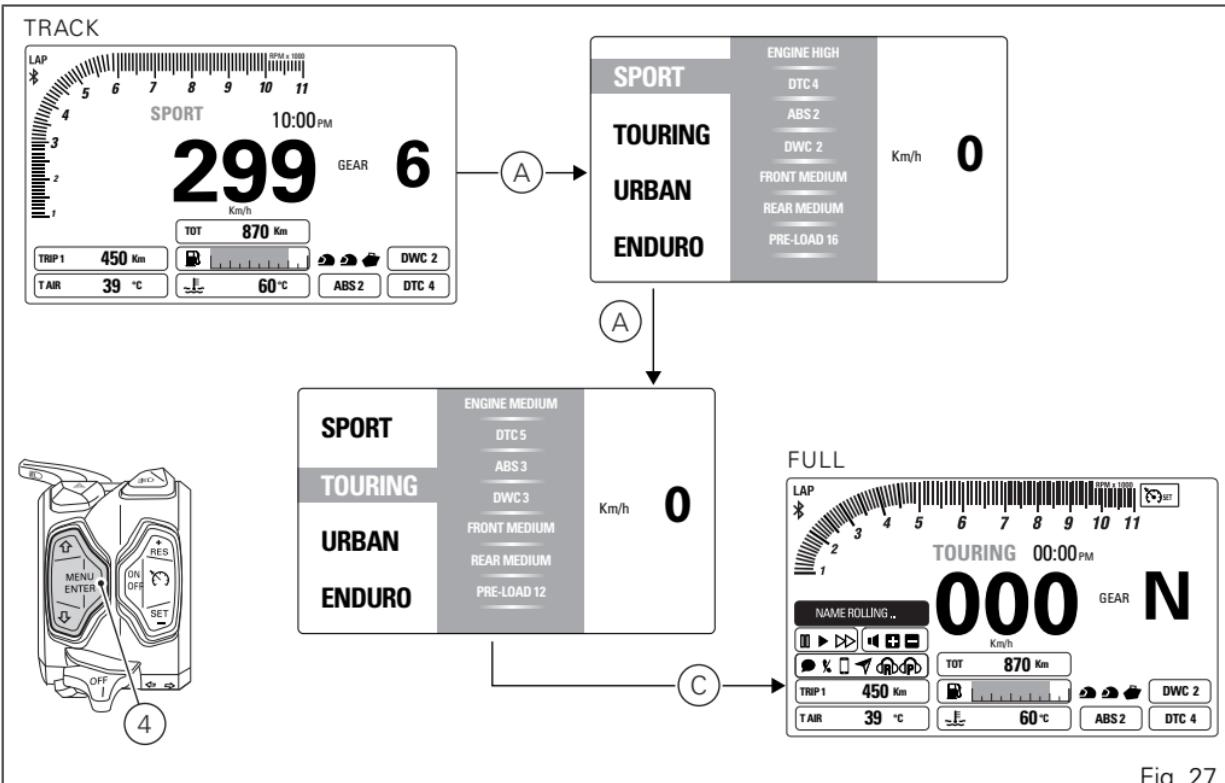

Fig. 27
Once the desired riding mode (A, Fig. 27) is highlighted, confirm the selection by holding down the CONFIRM MENU button (4) for 2 seconds: the new riding mode selection is stored and the standard screen (C, Fig. 27) is displayed for the selected riding mode.